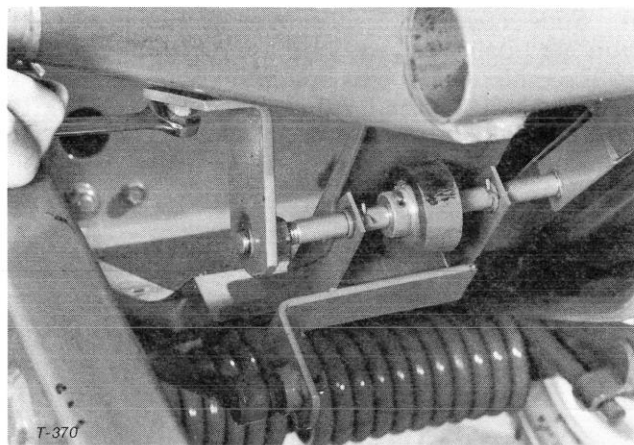

Figure 15
2. Remove and discard bracket (Fig. 15).